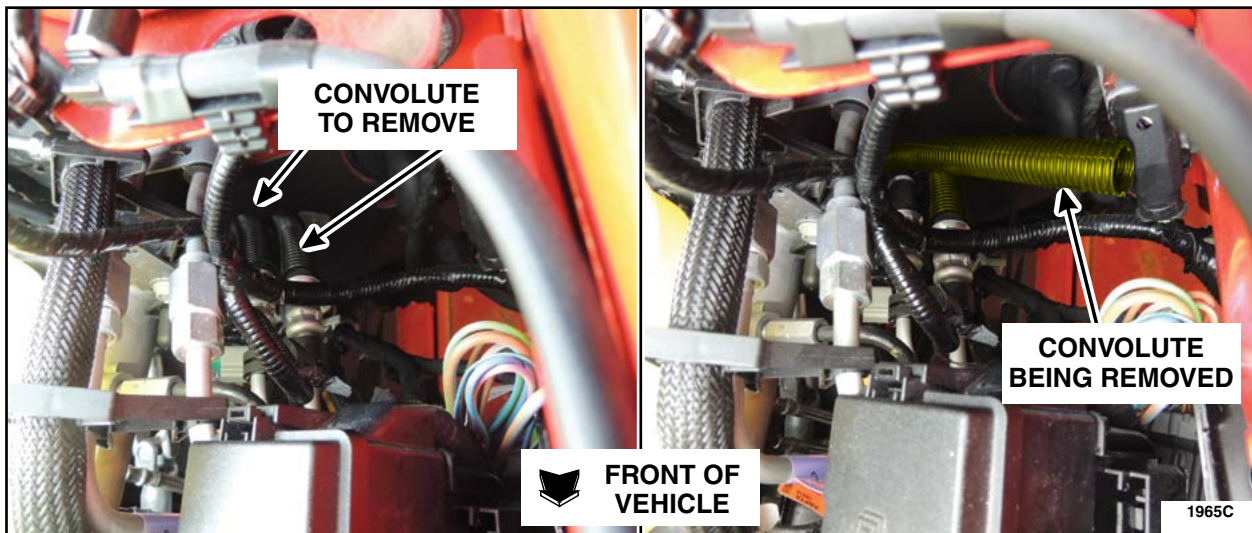

FIGURE 3
2. Remove the upper convolute from the power steering pump to Hydro-Booster and the Hydro-Booster to steering gear pressure hoses. See Figure 3.